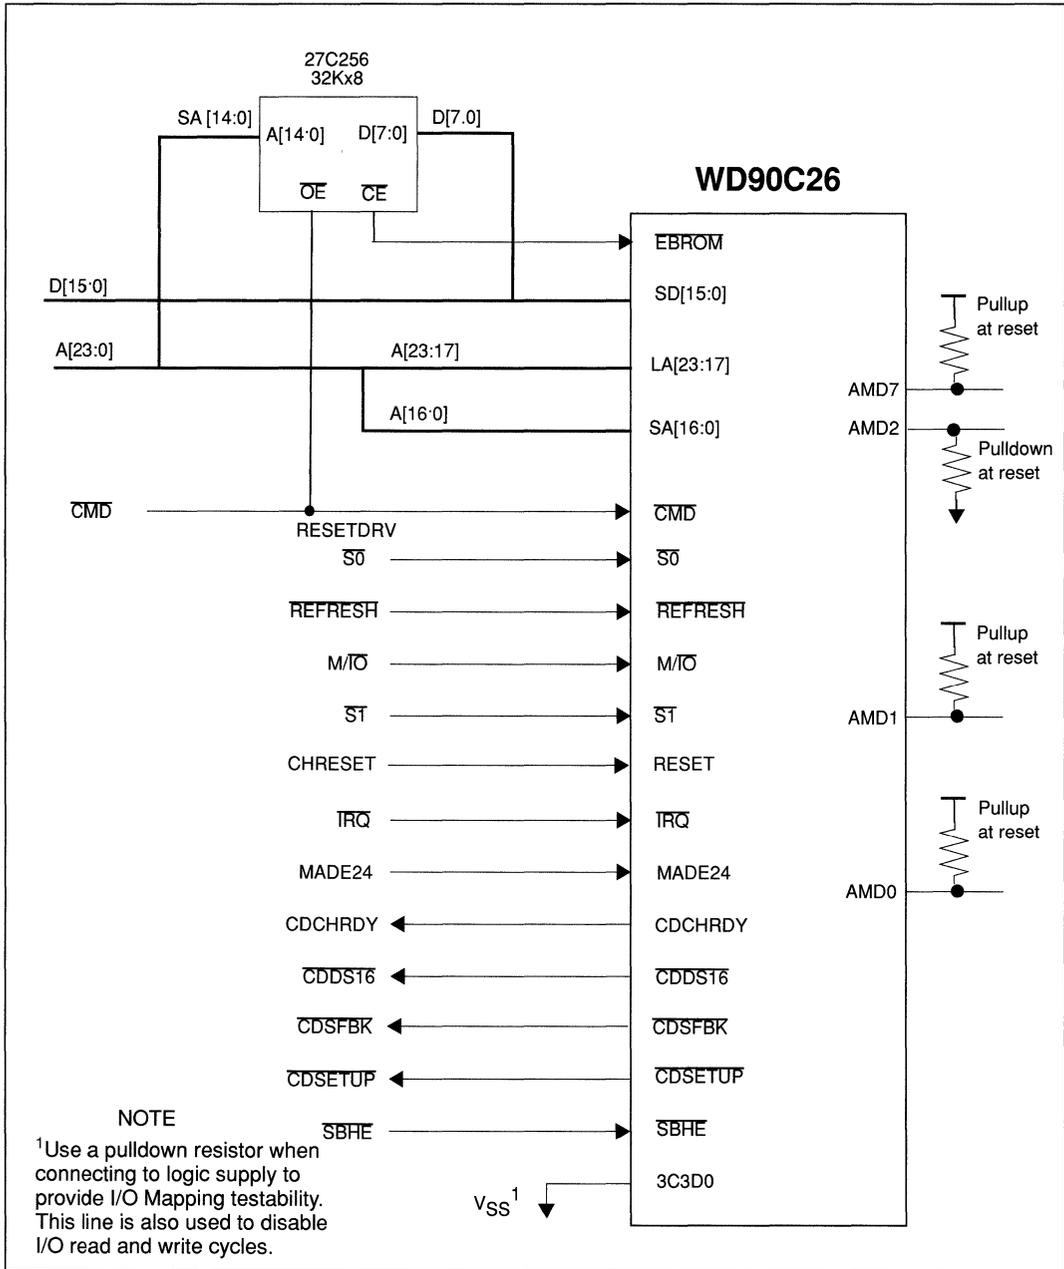

FIGURE 6-7 16-BIT MICROCHANNEL BUS INTERFACE
- 16-Bit MicroChannel Bus Interface with 8-Bit BIOS, Figure 6-7.
Figure 6-7 shows a typical MicroChannel Bus Interface and 8-bit BIOS ROM.